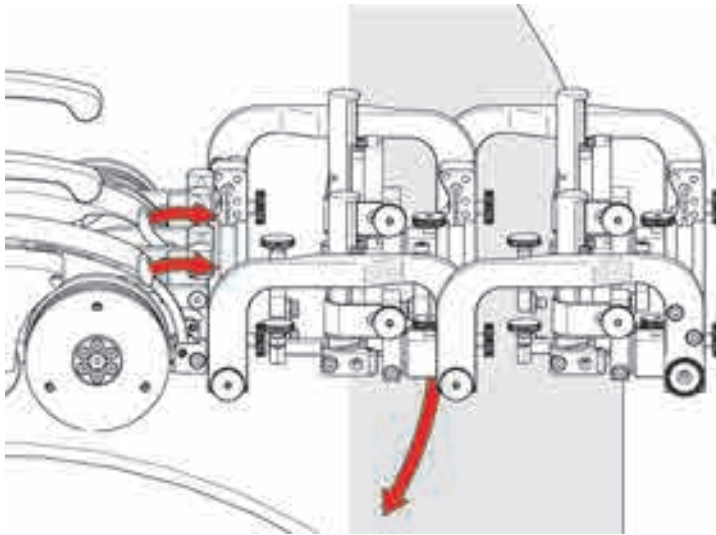
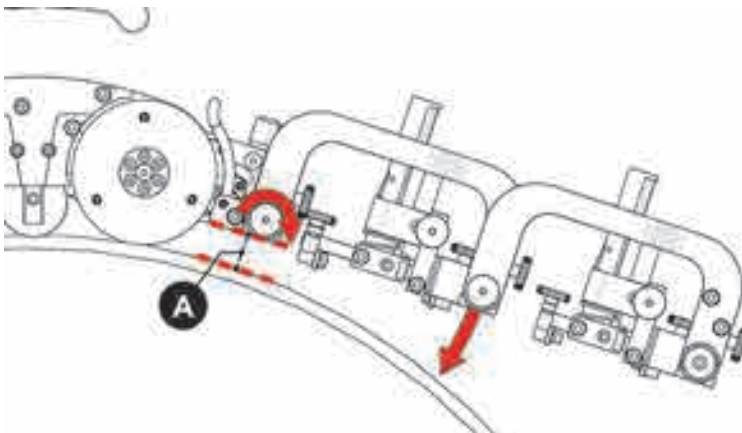
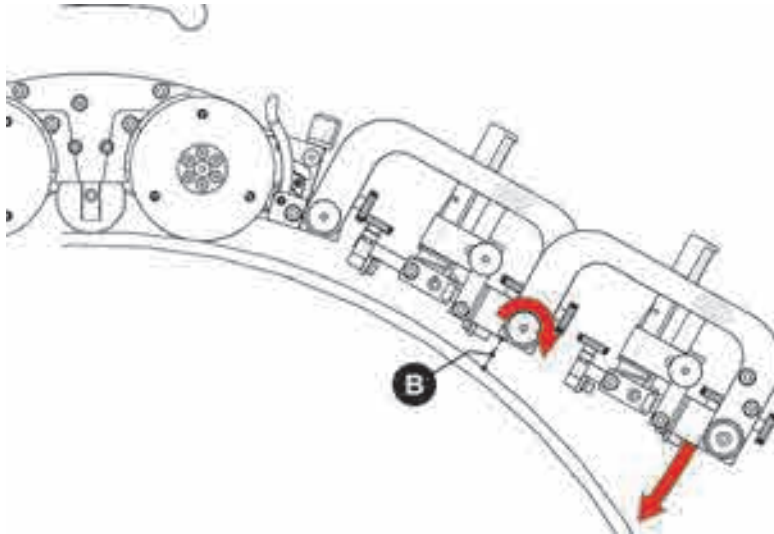
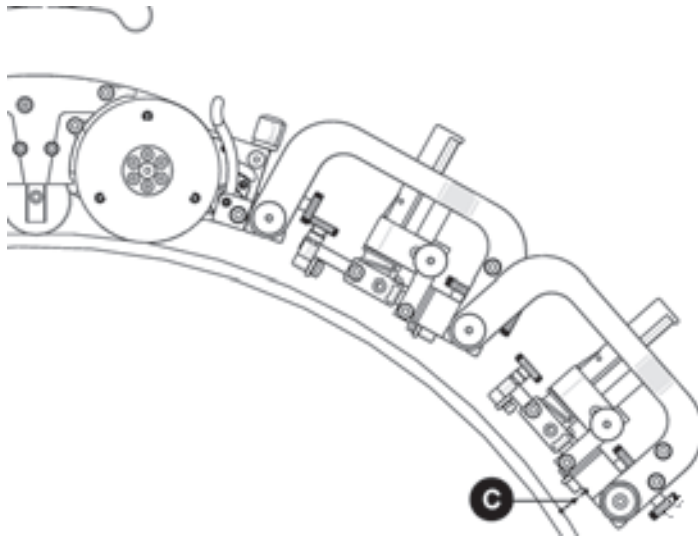

Figure 4-110 Align swivel mount with scan surface
Figure 4-111 Set rear rotational adjustment knob
Figure 4-112 Set front rotational adjustment knob
Figure 4-113 Align probes with the scan surface tangent
3. Mount the probe holder rack to the SteerROVER (see “Swivel Mount” on page 110 for additional details). When mounting the probe holder rack, ensure the attachment knobs are at the front (not the scanner side) [see Figure 4-110 on page 174].
4. Release the two swivel mount levers (see Figure 4-110 on page 174) to position the swivel mount parallel to the scan surface (see Figure 4-111 on page 174). When alignment with scan surface is achieved, lock the SteerROVER scanner's swivel mount levers.
5. Loosen the rear rotational adjustment knob to lower the rear section of the rack toward the inspection surface (see Figure 4-111 on page 174). Ensure that gap B (see Figure 4-112 on page 175) is no smaller than gap A (see Figure 4-111 on page 174).
6. Loosen the front rotational adjustment knob (see Figure 4-112 on page 175) to lower the front section of the rack toward the inspection surface, ensuring that gap C (see Figure 4-113 on page 176) is no smaller than gap A (see Figure 4-111 on page 174).